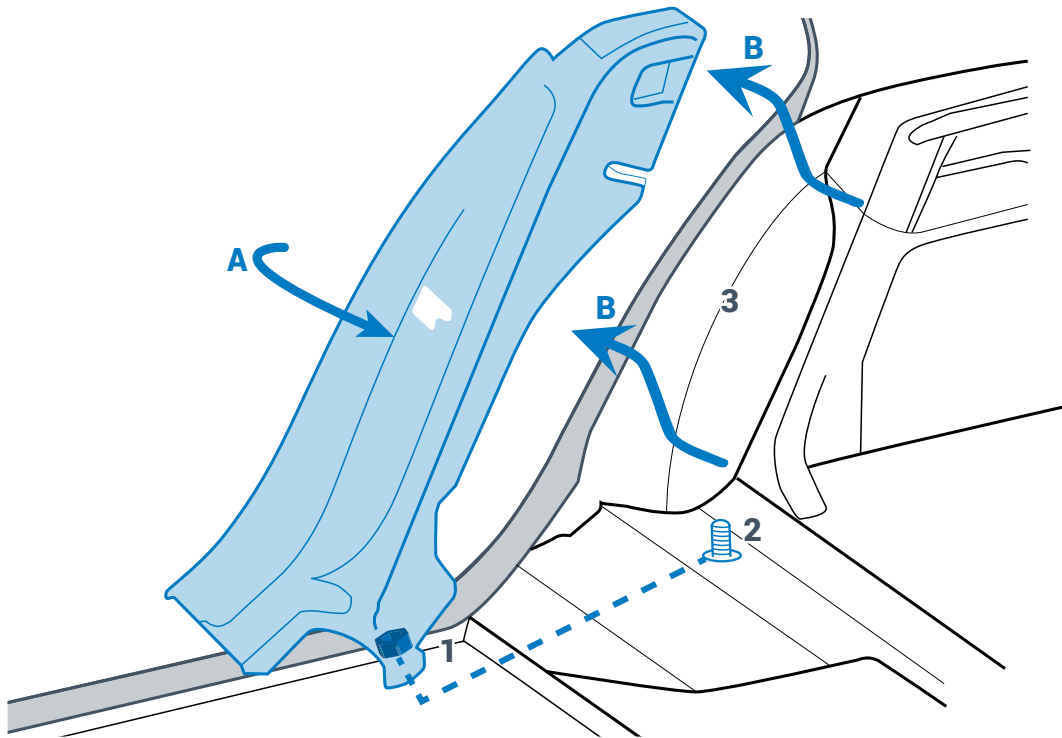

Fig. 6
- 6.2.5 Remove nut **1** from bolt **2** (Fig. 6).
- 6.2.6 Remove the covering from the body (Fig. 6 point 3).